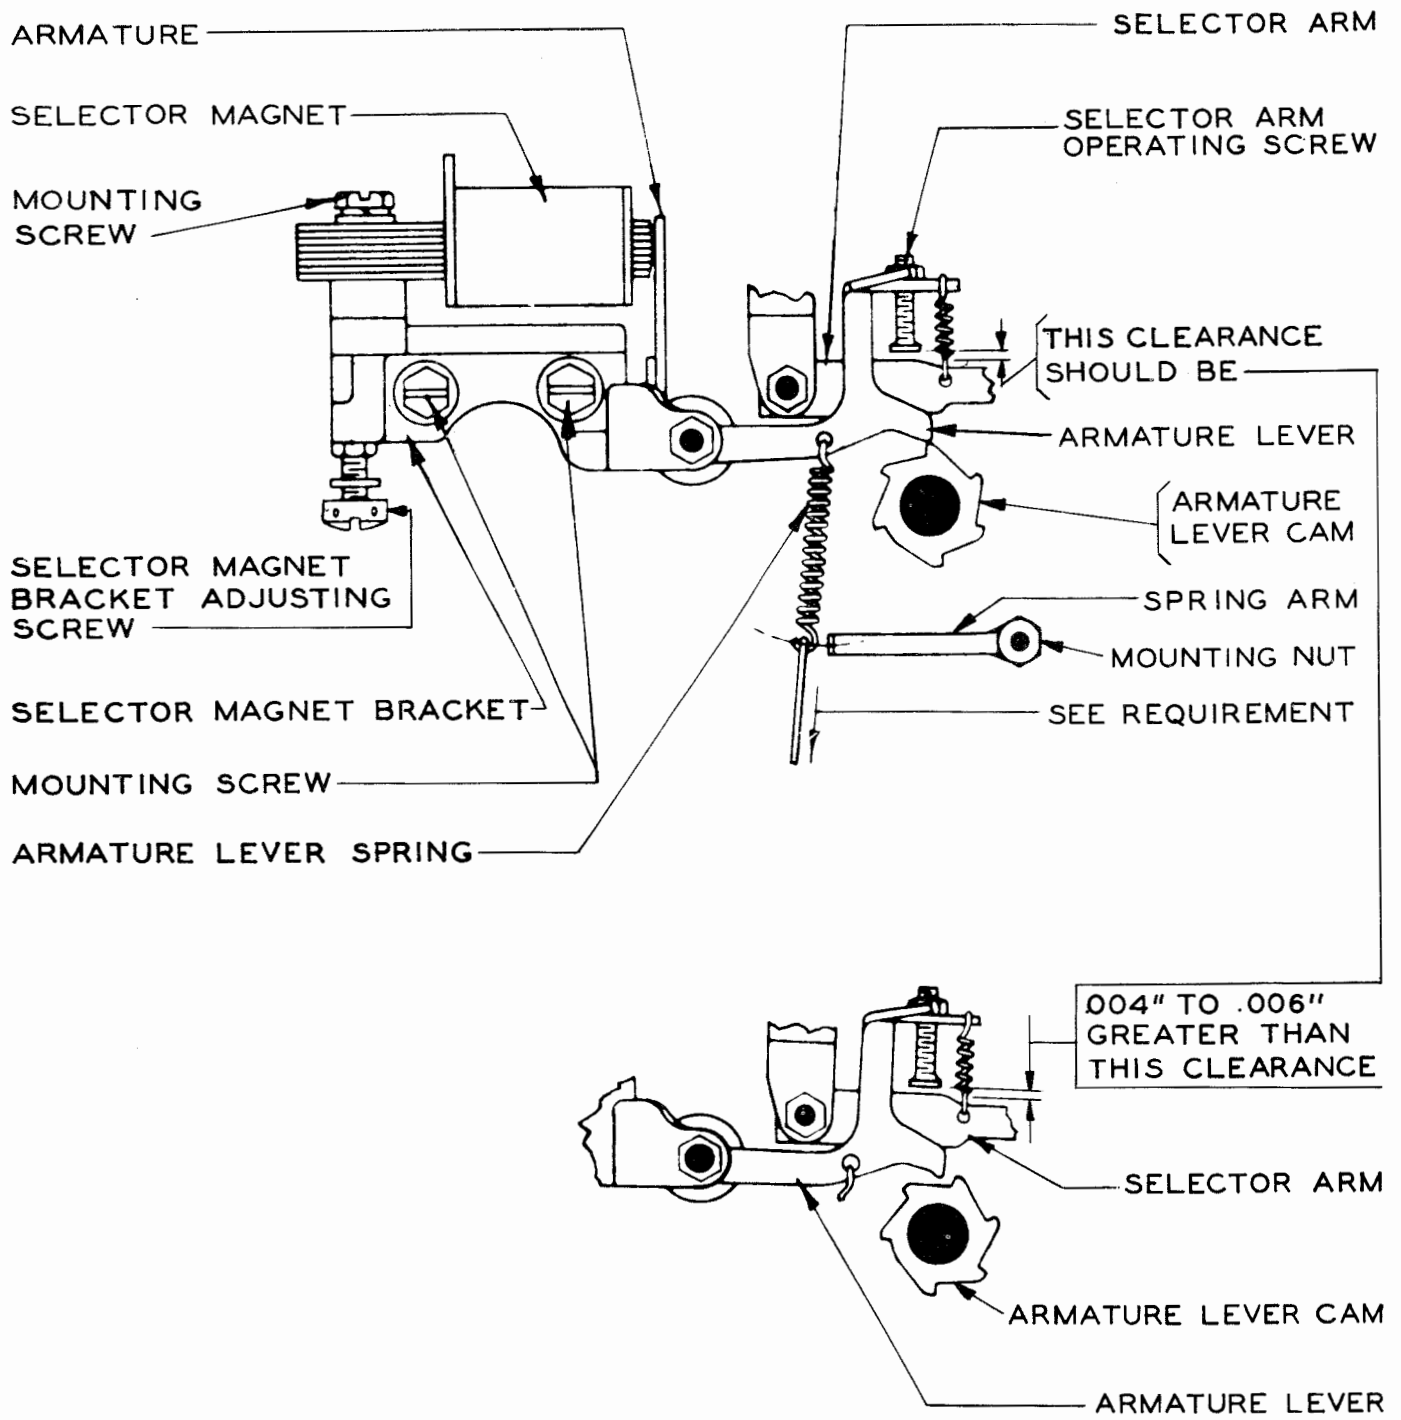

Figure 11
2.14 Armature-lever Spring: With the armature-lever spring unhooked, rotate the main shaft until the armature lever is on the high part of its cam. It shall require a pull as follows, to stretch the spring to its position length: (See Figure 11.)